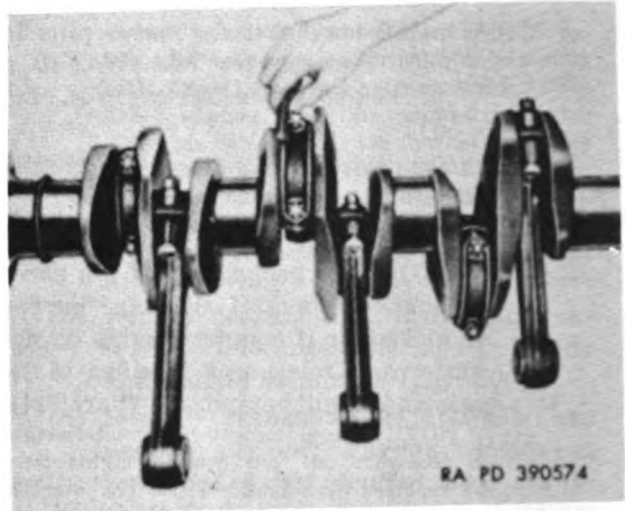

Figure 70. Checking connecting rod side clearance.
- (1) If piston pin bushing-type bearing (F-1) was removed, refer to paragraph 79g for installation of bearing.
- (2) Position connecting rod bearings (E) in their respective rods and caps. Install two $\frac{1}{8}$ x 3 $\frac{1}{2}$ $\frac{1}{2}$ connecting rod bolts (F-2) in each connecting rod (F-3-a), making certain each bolt head is properly seated in recess provided.
- (3) Position rods on crankshaft in proper location according to their identifying number. No. 1 connecting rod is connected to the journal at the vibration damper hub end with other rods following in succession. All location numbers are on the bottom, or oil pan side, of crankshaft when the rods are positioned in the cylinders.
- (4) Position connecting rod cap (F-3-b), with installed bearing, around journal to mate with its corresponding rod. Secure rod and cap to crankshaft with $\frac{1}{8}$ -inch slotted hex nuts (F-4) installed on connecting rod bolts.
- (5) Using a torque wrench, tighten nuts to 750 pound-inches of torque plus sufficient additional torque to aline slots in nuts with holes in bolts. Do not exceed 850 pound-inches of torque.
- (6) Using a feeler gage as shown in figure 70, check the side clearance of each